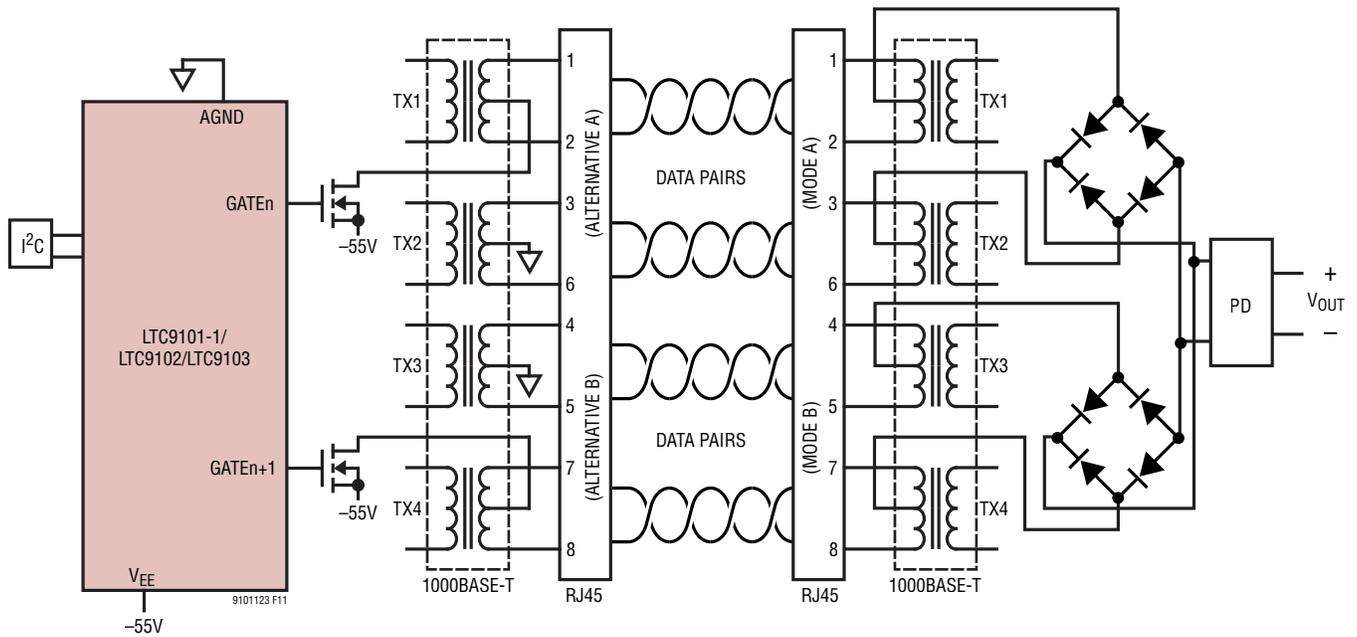
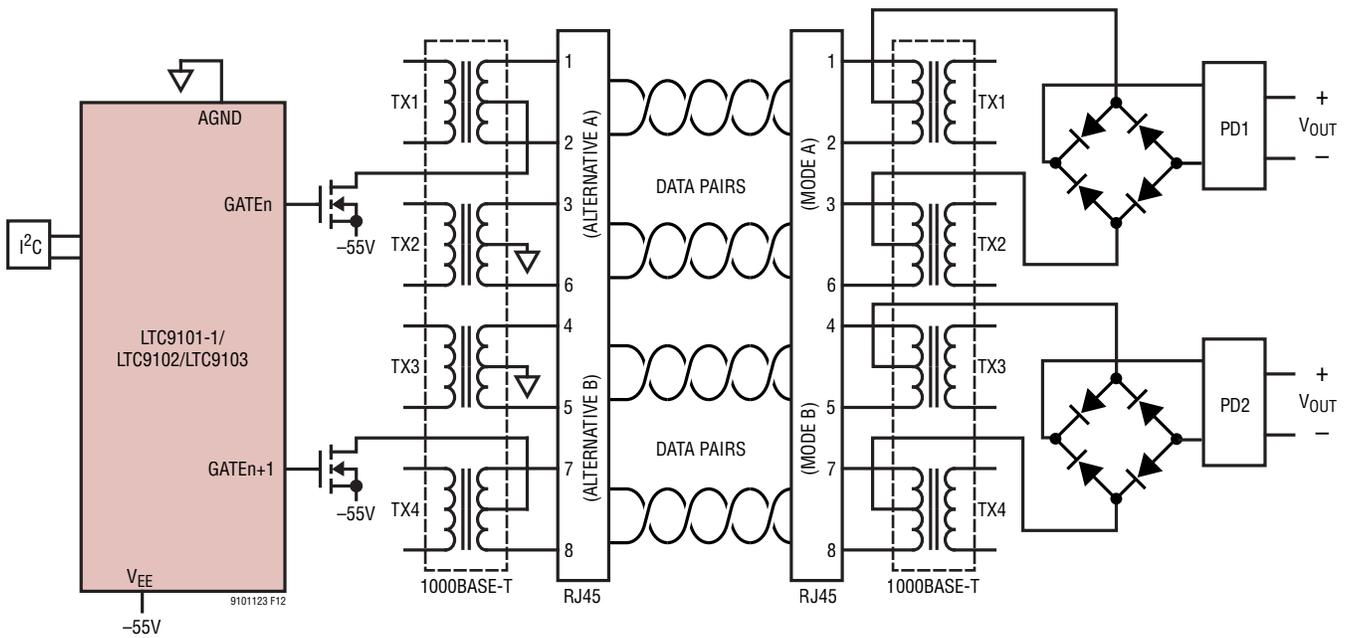

Figure 11. 4-Pair Power over Ethernet Single-Signature PD System Diagram
Figure 12. 4-Pair Power over Ethernet Dual-Signature PD System Diagram
In LTC9101-1 4-pair mode, two LTC9102/LTC9103 channels are associated with each port. As such it is required that power channels are connected to Alternative A and Alternative B, respectively (see Figure 11). In 4-pair mode the host is responsible for deciding if both power channels will be utilized to power a given PD. Thus 2-pair powering in 4-pair mode can be used to power single-signature Class 0 to 4 PDs. For higher power Class 5 to 8 PDs and for all dual-signature PDs, both power channels must be utilized, also referred to as 4-pair power (see Figure 12).
Common Ethernet data connections consist of two or four twisted pairs of copper wire (commonly known as Ethernet cable), transformer-coupled at each end to avoid ground loops. PoE systems take advantage of this coupling arrangement by applying voltage between the center-taps of the data transformers to transmit power from the PSE to the PD without affecting data transmission. Figure 11 and Figure 12 show high level PoE system schematics.
- Type 3 and 4 PDs can be formed as either a single-signature PD or dual-signature PD. A single-signature PD presents the same valid signature resistor to both pairsets simultaneously (see Figure 11). A dual-signature PD presents two fully independent valid detection signatures, one to each pairset (see Figure 12).